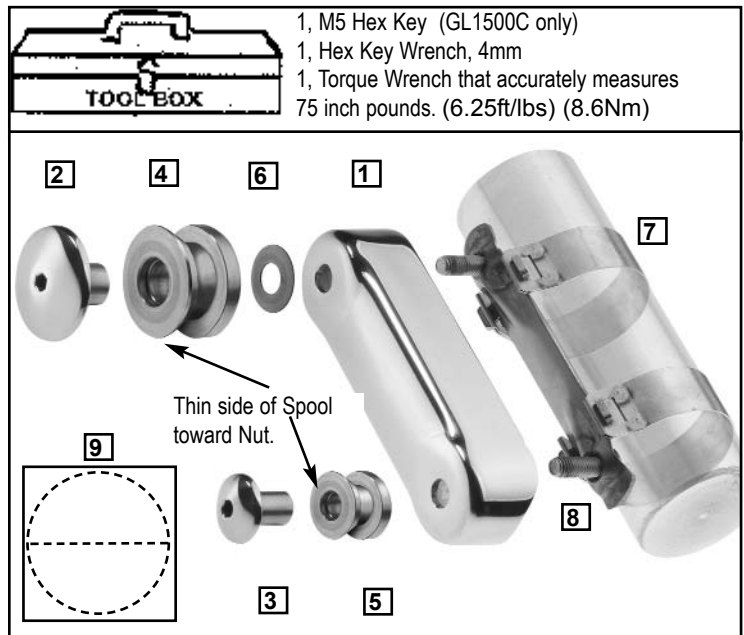

Figure 1.
4. Position the Mounting Cup onto the Spider Bracket so the studs protrude from the holes in the Mounting Cup. **Figure 1.**
5. Place a Brass Washer (6) onto the upper stud. **Figure 1.**
6. Push the large Upper Nut (2) into the large Upper Spool (4) so *the thin side* of the Spool is near the head of the Upper Nut. **Figure 1.**
7. Start the Upper Nut/Spool onto the upper stud. **Figure 1. (4mm Hex Key)**
8. Assemble the Lower Spool (5) and Lower Nut (3) so *the thin side* of the Spool is near the head of the Lower Nut.
ASSEMBLE MOUNTING CUP, SPOOL AND NUT, Figure 1, page 1.
5. Place a Brass Washer (6) onto the upper stud. **Figure 1, page 1.**
6. Push the large Upper Nut (2) into the large Upper Spool (4) so the thin side of the Spool is near the head of the Upper Nut. Thick side of Spool against the Mounting Cup.
8. Assemble the Lower Spool (5) and Lower Nut (3) so the thin side of the Spool is near the head of the Lower Nut. **Figure 1, page 1.**